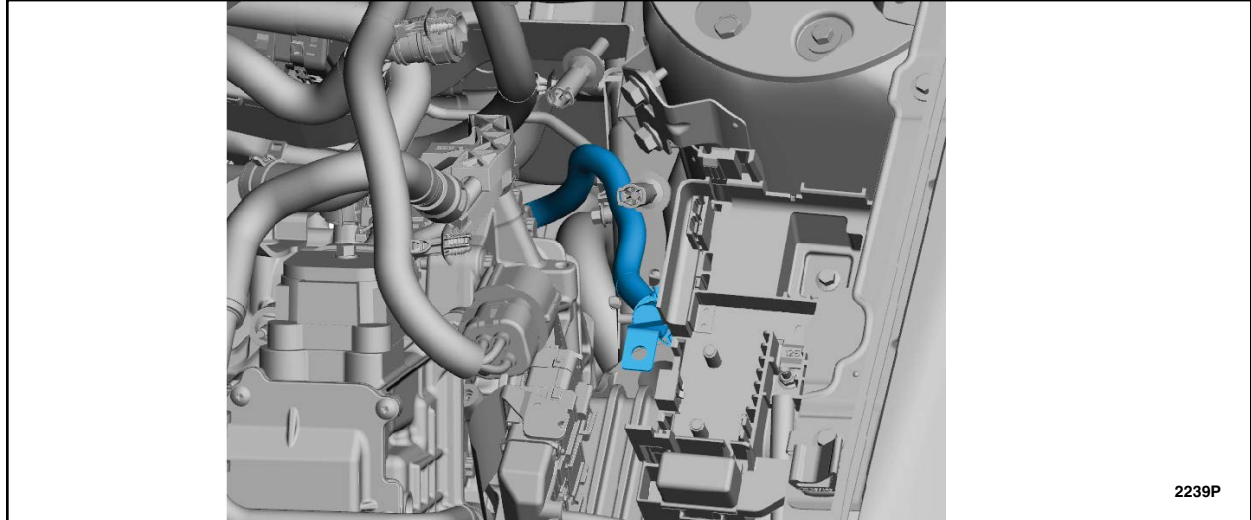

FIGURE 16
21. Route the front portion of the harness through the engine bay as shown in Figure 16. New harness will follow the same path as the old harness.